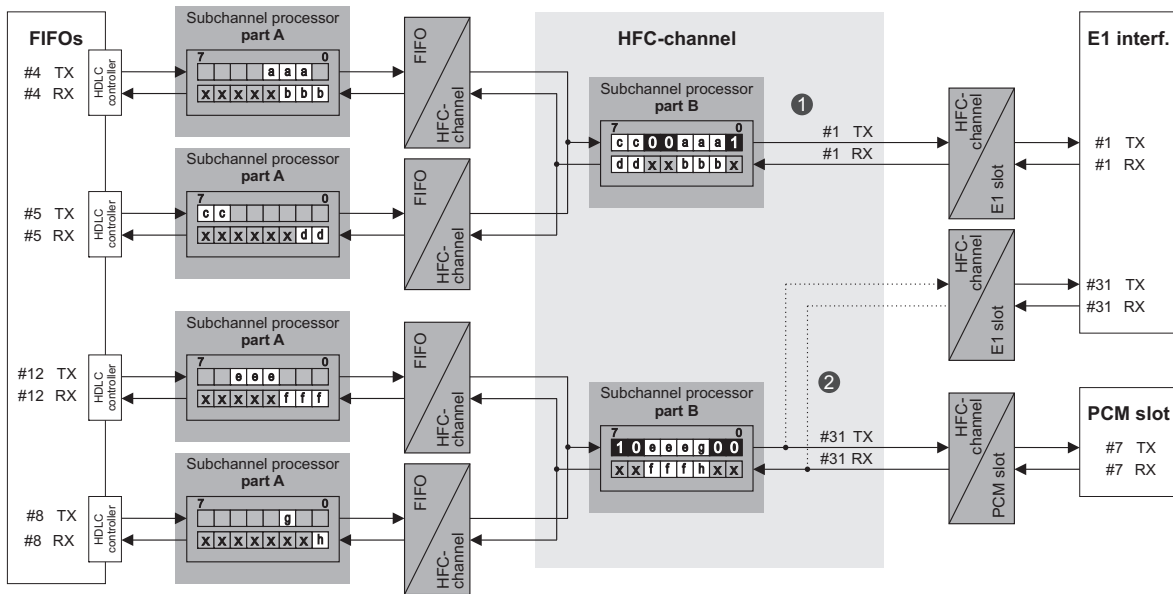

Figure 3.19: CSM example with subchannel processor
In *Channel Select Mode* up to 8 FIFOs can be assigned to one HFC-channel if only 1 bit is processed by every FIFO. The example in Figure 3.19 shows two bidirectional configurations (① FIFO-to-E1 and ② FIFO-to-PCM) with two FIFOs per direction each.
① FIFO-to-E1 (TX)
Table 3.9: Subchannel processing according to Figure 3.19 (CSM ① TX, transparent mode)
Table 3.10: Subchannel processing according to Figure 3.19 (CSM ① RX, transparent mode)